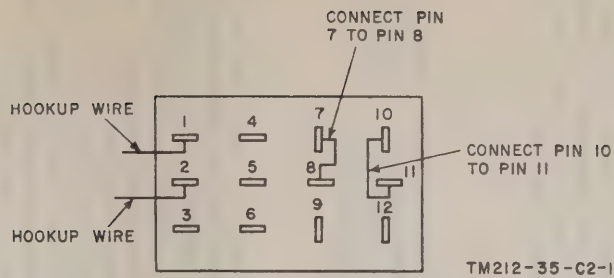

Figure 48.1. (Added) Receiver special purpose test cable.
f. To perform the test on the receiver, fabricate a special purpose test cable as illustrated in figure 48.1.
Special purpose test cable (fig. 48.1)